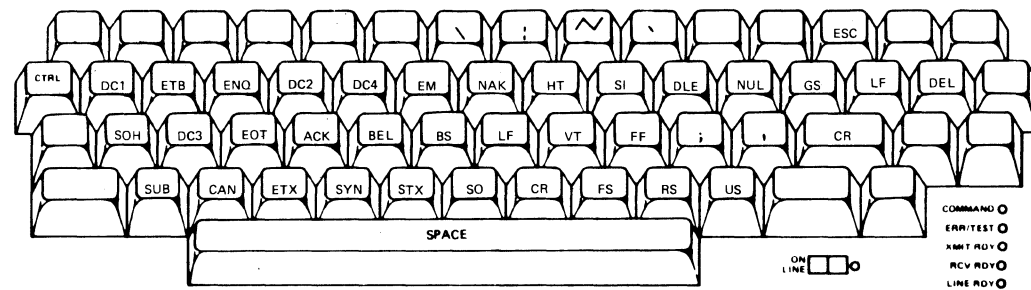

Figure 3-5. Keyboard (Control)
- Control—CTRL key depressed; ASCII control characters and the symbols \ ; ~ \ are encoded. Figure 3-5 illustrates the control characters generated by each key.